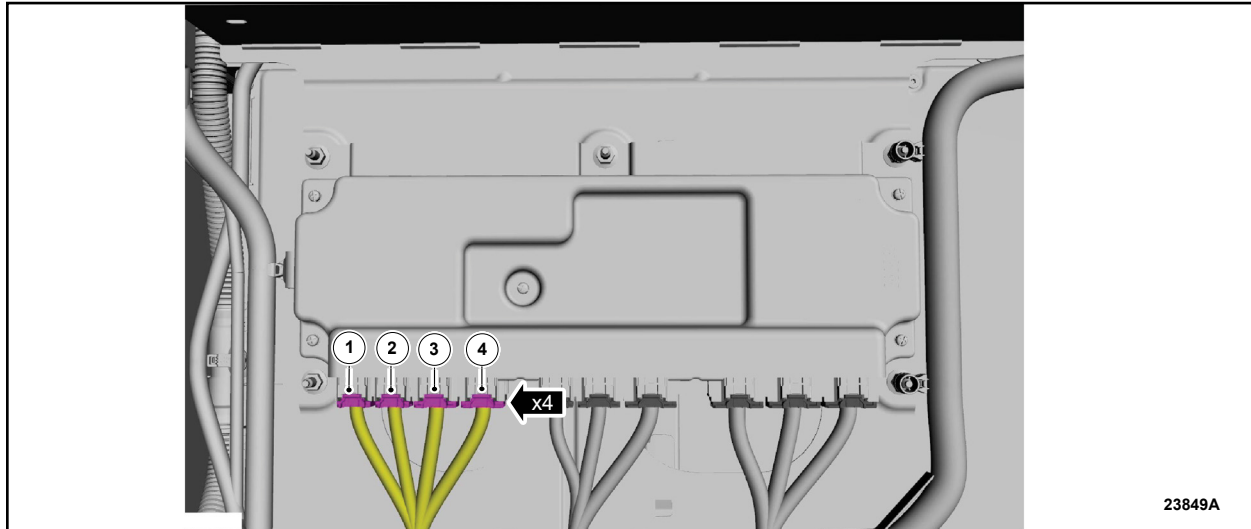

FIGURE 1
3. Disconnect the Battery Energy Control Module (BECM) electrical connectors in the sequence shown. See Figure 1.